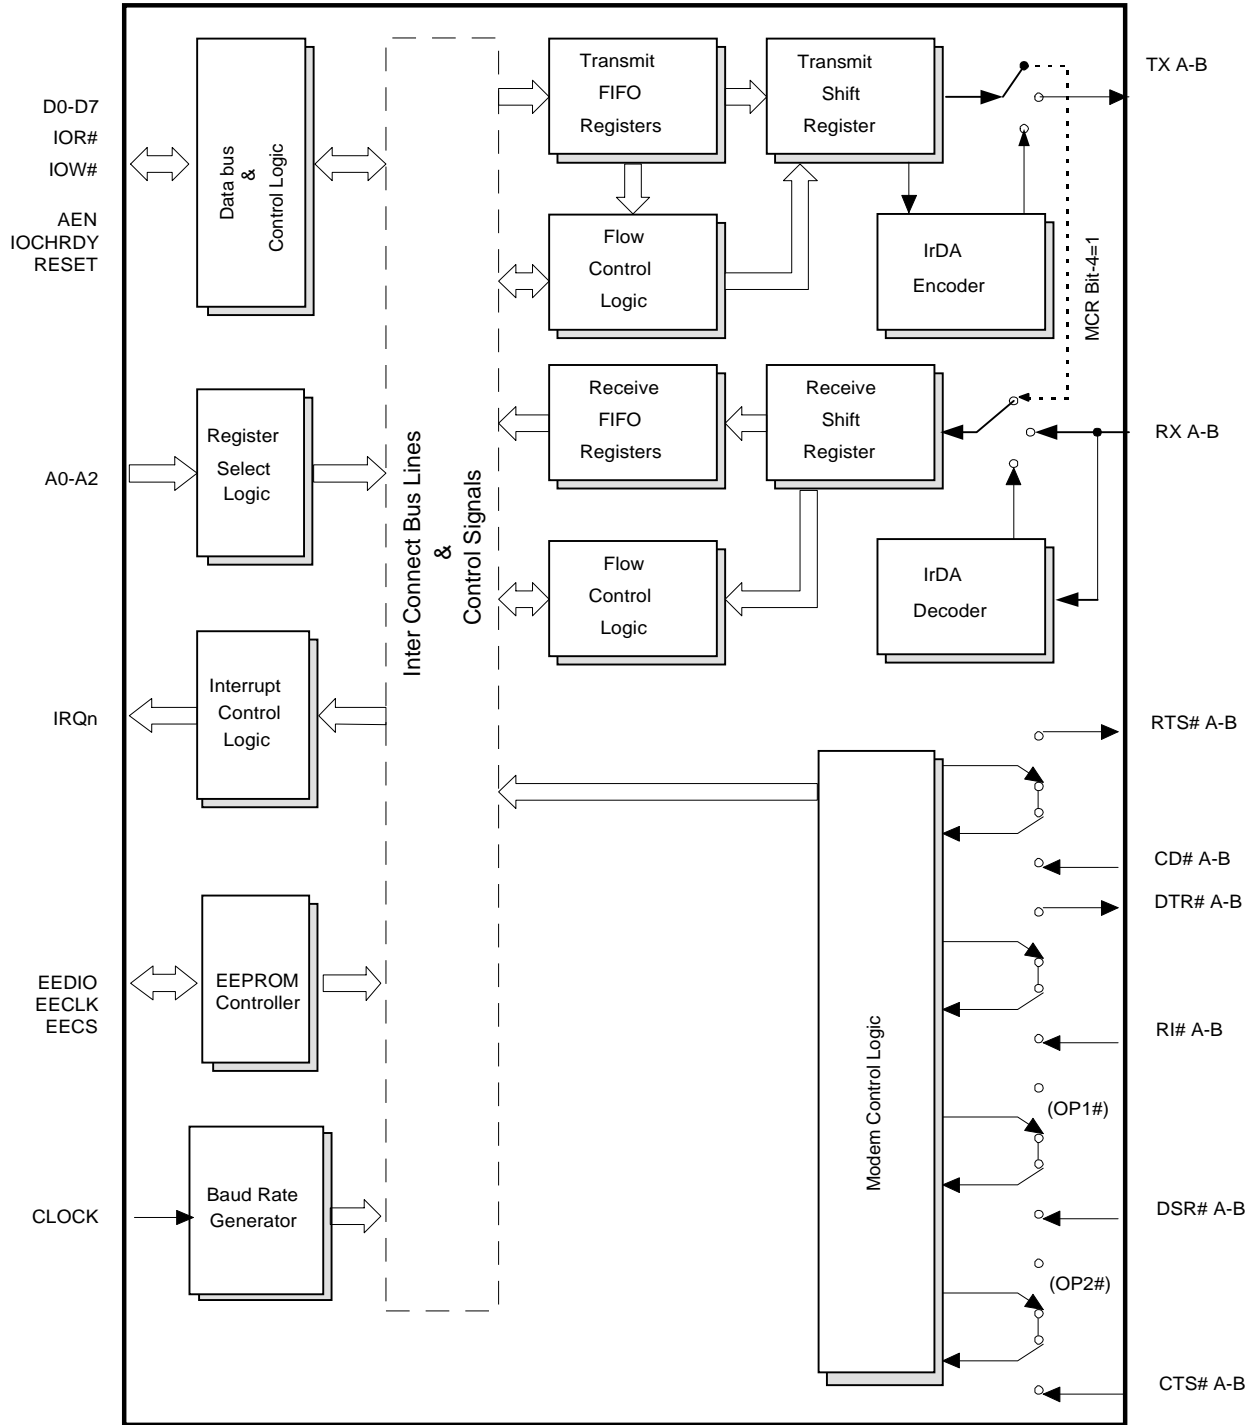

Figure 7. Internal Loop-Back Mode Diagram
The internal loopback capability allows on board diagnostics. In this mode, the normal modem interface pins are disconnected and re-configured for loopback internally. MSR bits 4-7 are also disconnected. However, MCR register bits 0-3 can be used for controlling loopback diagnostic testing. In this mode, OP1 and OP2 in the MCR register (bits 0-1) control the modem RI# and CD# inputs respectively. MCR signals DTR# and RTS# (bits 0-1) are used to control the modem CTS# and DSR# inputs respectively. The transmitter output (TX) and the receiver input (RX) are disconnected from their associated interface pins, and instead are connected together internally (See Figure 7). The CTS#, DSR#, CD#, and RI# are disconnected from their normal modem control inputs pins, and instead are connected internally to DTR#, RTS#, OP1# and OP2#. Loopback test data enters transmit holding register via the user data bus interface, D0-D7. The transmitter serializes the data and passes the serial data to the receive UART via the internal loopback connection. The receive UART converts the serial data back into parallel data that is then made available at the user data interface, D0-D7. The user optionally compares the received data to the initial transmitted data for verifying error free operation of the UART TX/RX circuits. In this mode, the receiver, transmitter and modem control interrupts are fully operational. However, the interrupts can only be read using lower four bits of the Modem Control Register (MCR bits 0-3) instead of the four Modem Status Register bits 4-7. The interrupts are still controlled by the IER. Please note that OP1# and OP2# pins are not brought out and not available.